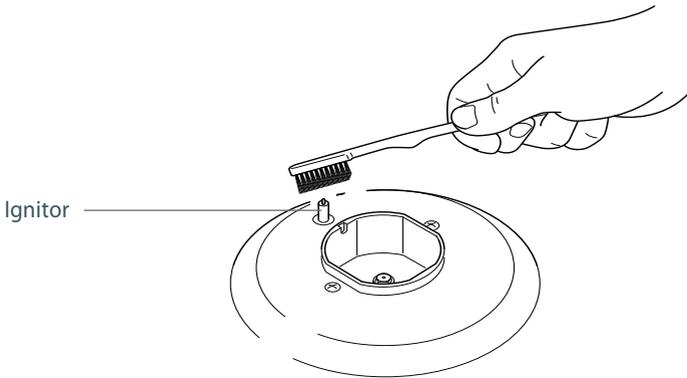

Fig. 33 Cleaning the ignitor
- The ignitors are sparking. If the ignitors are not sparking, they may be dirty or wet. Clean them with a toothbrush and methylated spirits, as shown in Fig. 33.
- Check that the ignitor is always clean to ensure trouble-free sparking. Clean it carefully with a toothbrush and methylated spirits (see Fig.33).